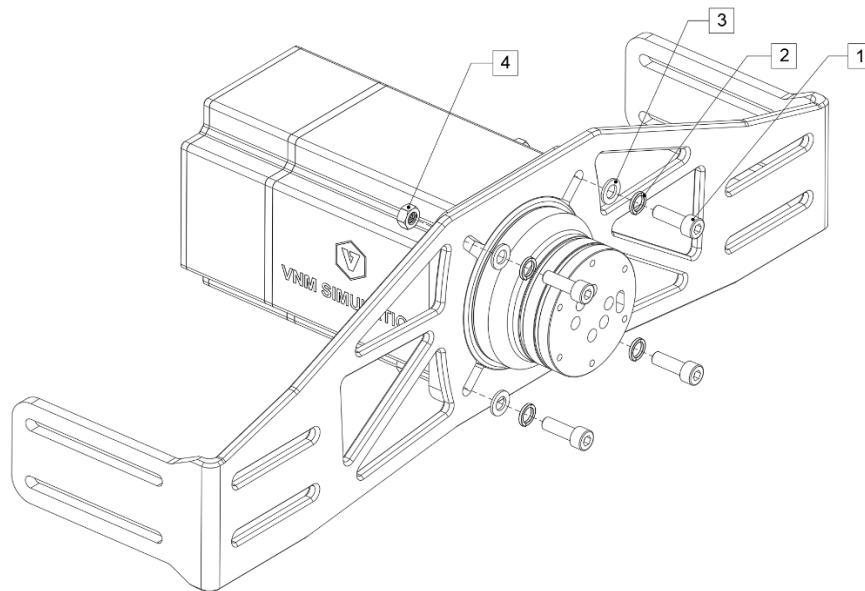

Figure 2. Mounting VNM Wheelbase on a simulator rig front mount bracket.
| Wheelbase Xtreme | is mounted with 4xM8 bolts length 30mm with 1,25mm thread pitch (1); 4xM8 spring washers (2); 4xM8 flat washers (3) and 4xM8 nuts (4) in Figure 2 |